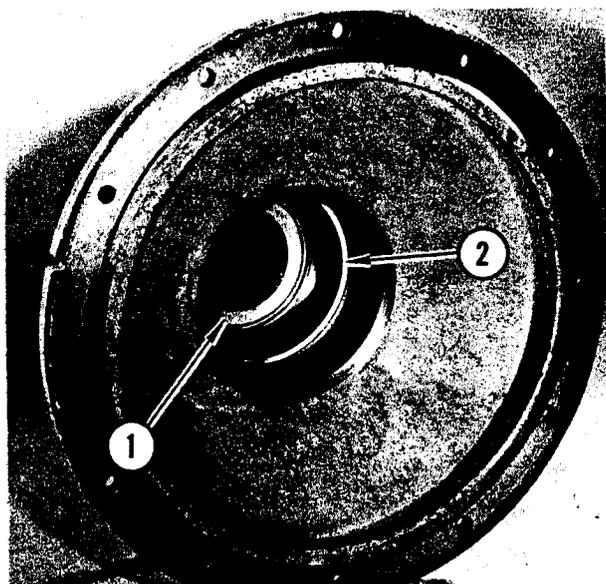

FIGURE 110. HOUSING SEAL REMOVAL
(1) and (2) from axle with bearing puller. Remove grease seals (3).
Refer to Figure 110. Remove oil seal (1) and bearing cup (2) from outer eccentric housing. NOTE: To drive bearing cup from housing, first remove three slotted pipe plugs from hub of eccentric housing. Insert a small punch through these openings to drive against bearing cup.